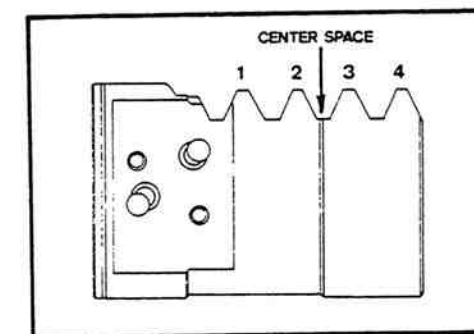

Figure 11-94. Rack Piston Teeth.
There are four teeth on the rack piston (10) (figure 11-94).